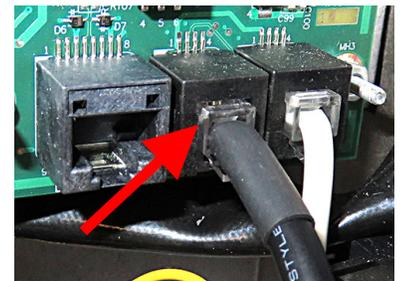

Figure 28
34. Attach the RJ11 adaptor from step 31 to the SIB board, where the RJ11 terminator was removed in step 25 (see Figure 28).